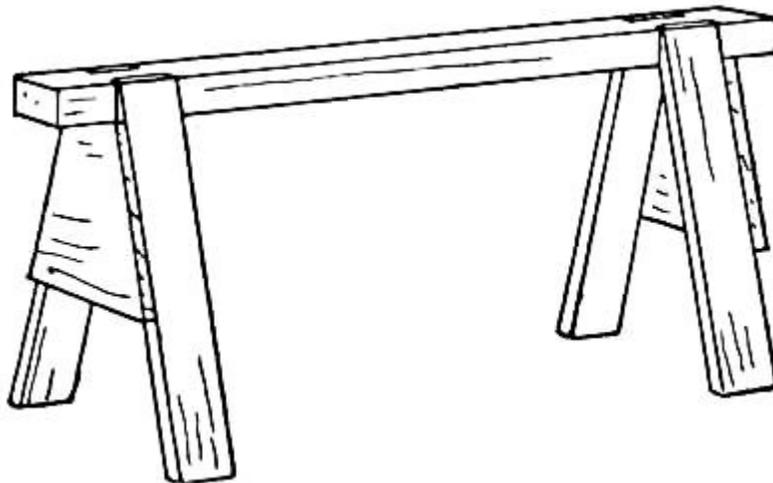
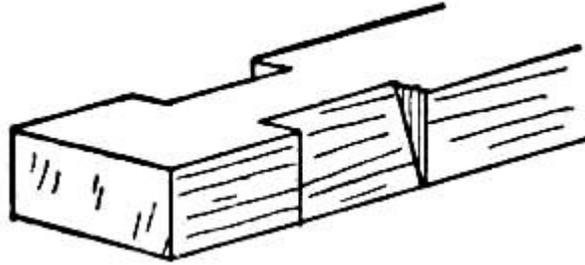

FIG. 9.
FIG. 10.
**Two Carpenter's Horses** will be required. A good scheme for these is shown in Fig. 9. The top is made out of a piece of two-by-four with bevelled mortises cut in two sides of each end as in Fig. 10. These mortises are made to receive the legs, and the angle of the bevel will of course determine the angle at which the legs will spread. Cut the legs out of four-inch boards, and bevel the lower ends to